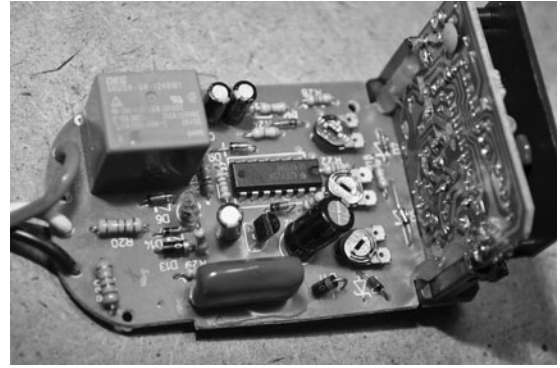
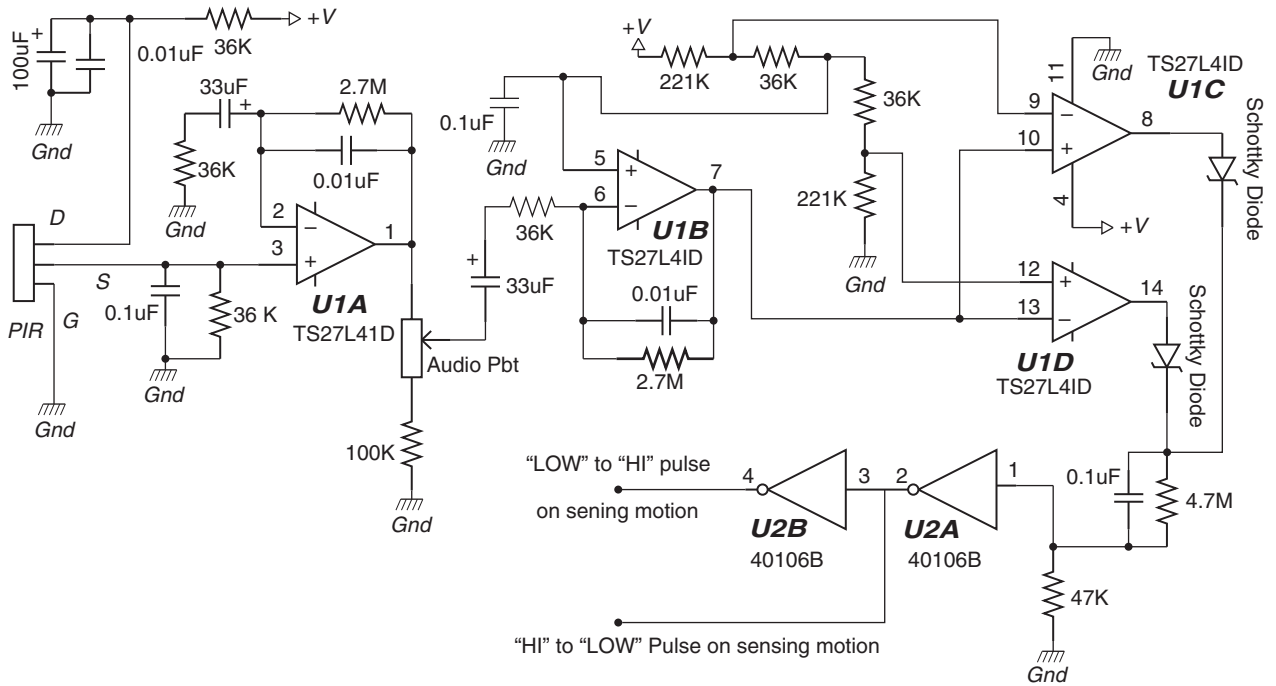

Figure 24-7 This is a typical example of a motion-sensor circuit board.
Figure 24-8 An example schematic from a common security-sensor system.
The circuit board will often be made of two parts as shown in Figure 24-7—a main circuit board that contains some safety electronics and a relay to control the AC lights, and a smaller vertically mounted circuit board that will contain the PIR sensor and its control electronics. Most of the time, you can reduce the circuit down to only the small sensor board, as the AC board is not going to be needed in this project. Of course, this requires some reverse engineering of the circuit board, but being such a simple circuit, it does not take much effort at all.
Chances are you will not be able to track down a schematic for your security sensor, but most sensors work the same way and use similar components. The schematic shown in Figure 24-8 is a fairly common example of a motion-sensor schematic, using a few op-amps to control the amplification and sensitivity from the PIR sensor. The current trend is to use a single motion-sensor duty integrated circuit (IC) on the board, so if your electronics look a lot more simple than the board shown in Figure 24-7, it is probably one of the newer cost-reduced types. Either way, reverse engineering the system for DC operation is fairly easy.